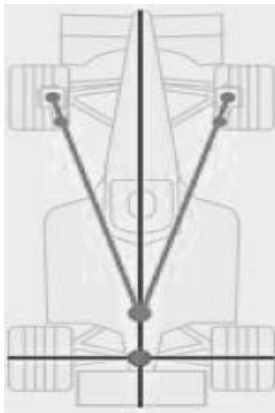

Figure 1
Q.3 identify the following steering cases mentioned in fig.1, 2 and 3 and provide their significance.